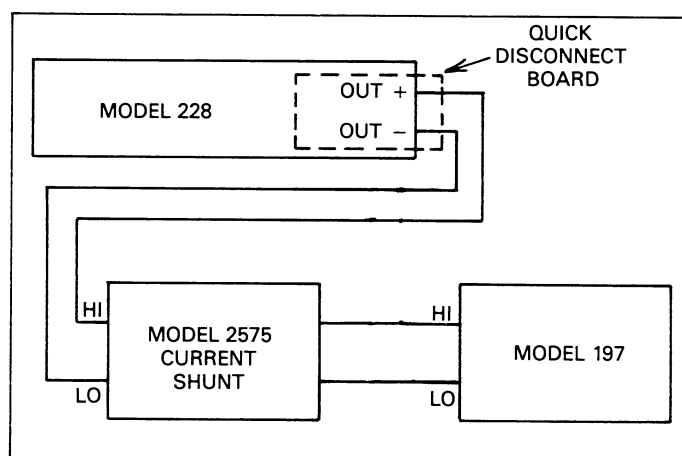

Figure 5-2. Output Current Configuration
1. Set up the configuration shown in Figure 5-2.